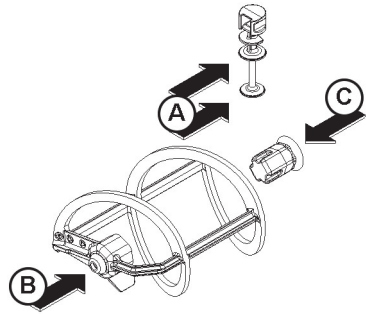

figure 17
- 2 Lubricate faucet piston, outer spiral and outside magnetic rotor (see points A, B and C of figure 17) only with the grease supplied by the manufacturer or other **food grade approved**